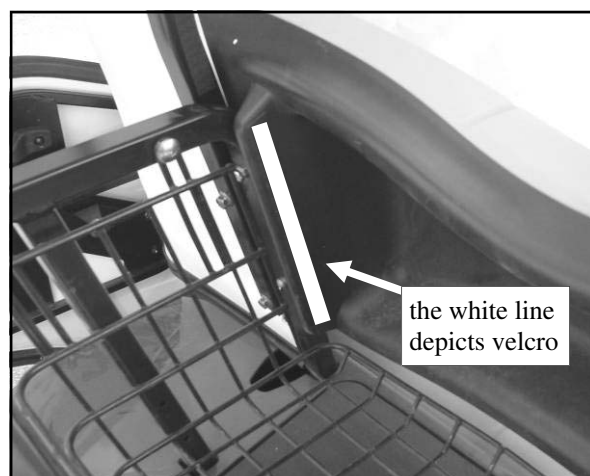

Fig. 4.3 (view from right side)
4.3 Per fig. 4.3, install hook Velcro to the back inside edge of the seat as shown. Ref.: 10" long per side. Note: the white bold line shown in the photo is to help indicate where the velcro should be applied.
4.8 Per fig. 4.8, velcro the final two lower sides to the back sides of the seat (ref.: attach to the newly installed velcro shown in fig. 4.3 on the previous page).